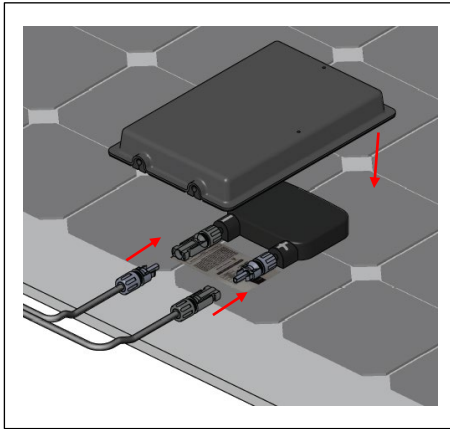

Fig. D4 – install junction box
8. Connect solar panel extension harnesses as shown in Fig. D4.